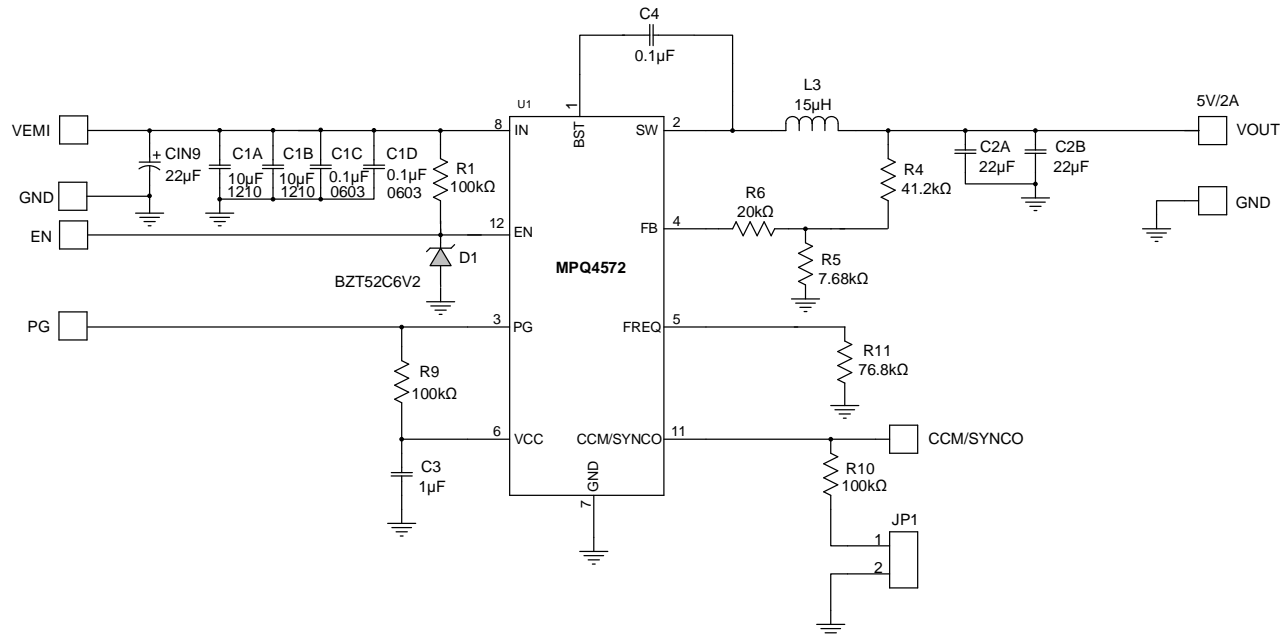

Figure 8: Typical Application Circuit
- 7) The recommended PCB layout is based on the circuit in Figure 8.